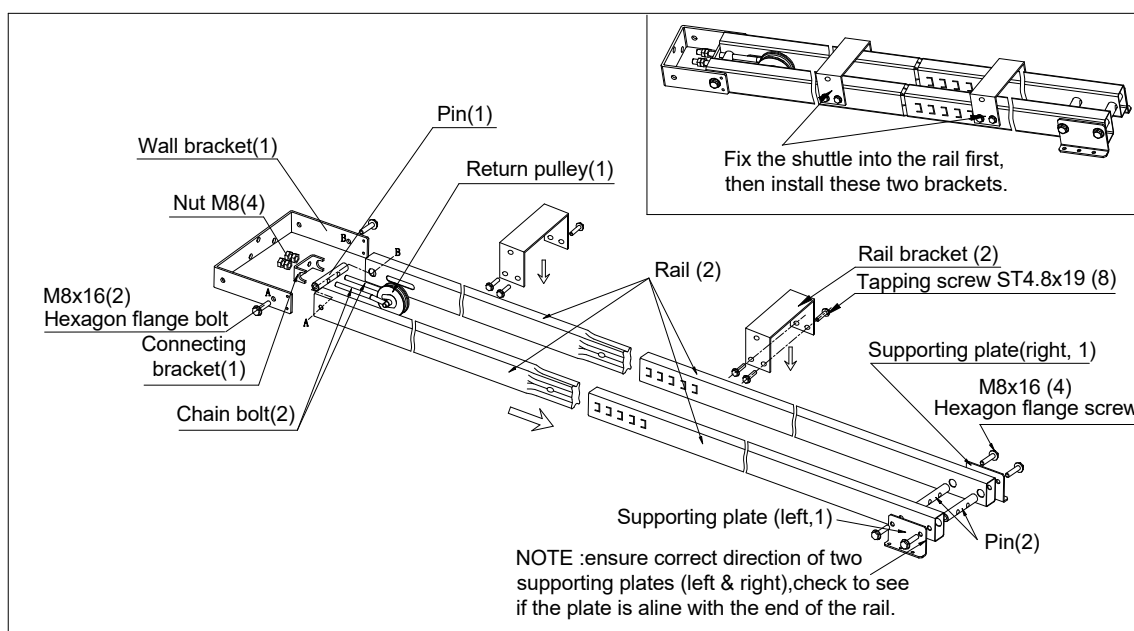

Fig.3
- Connect the rail as shown in Fig.3.
- Adjust the chain tension by turning the two locknuts with spanner. see Fig.3.